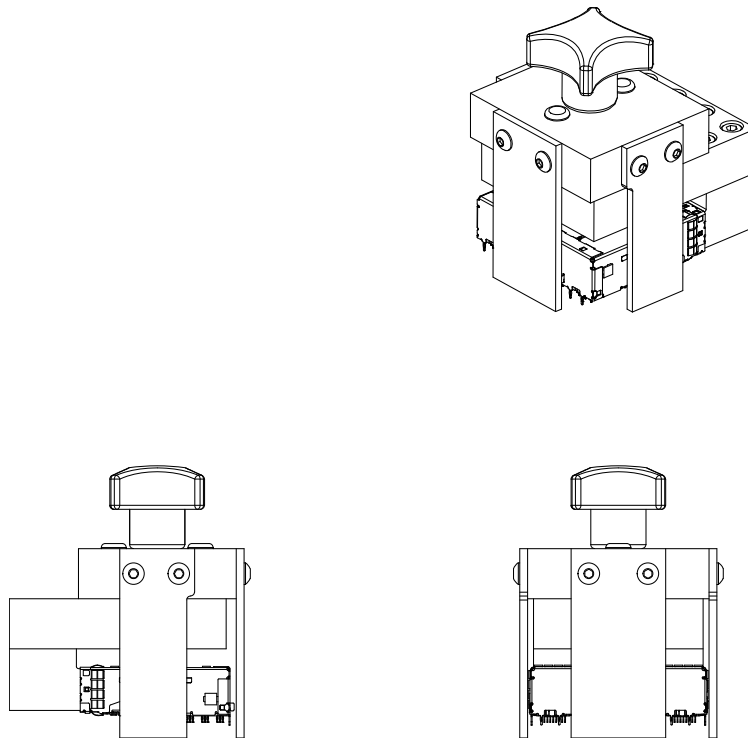

Figure 3
3. Position the upper tooling assembly over the pins in the blade removal assembly. Lower the upper tooling assembly until the side plates contact the pc board. See Figure 3.